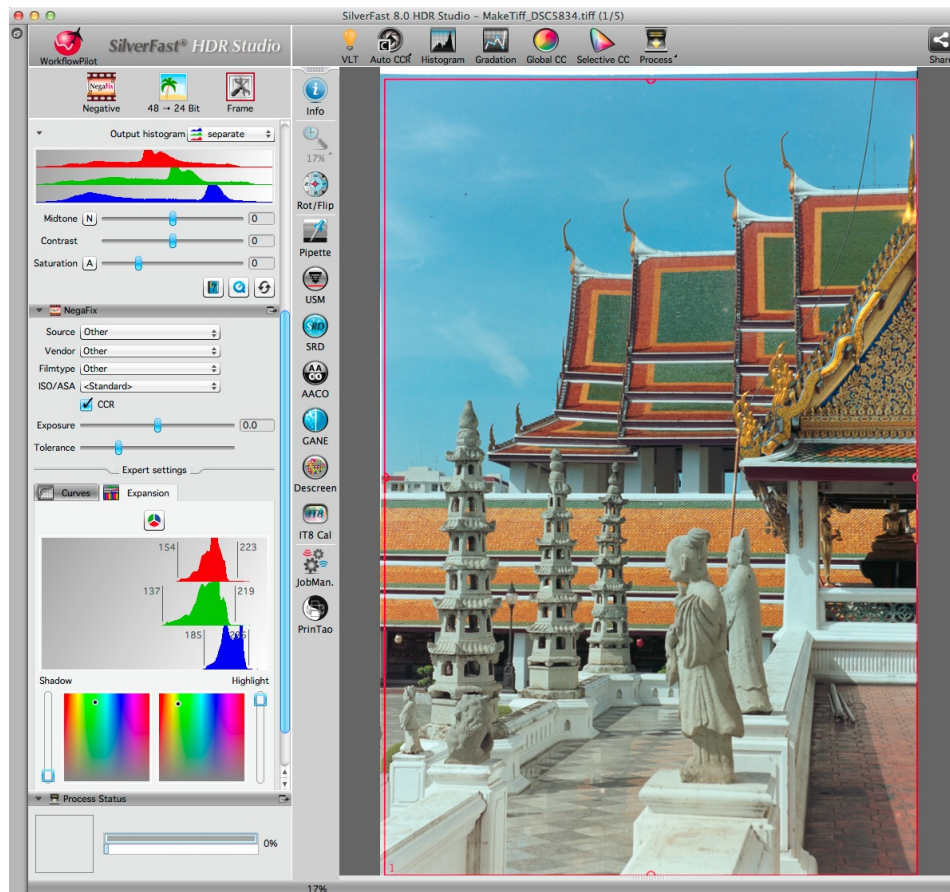
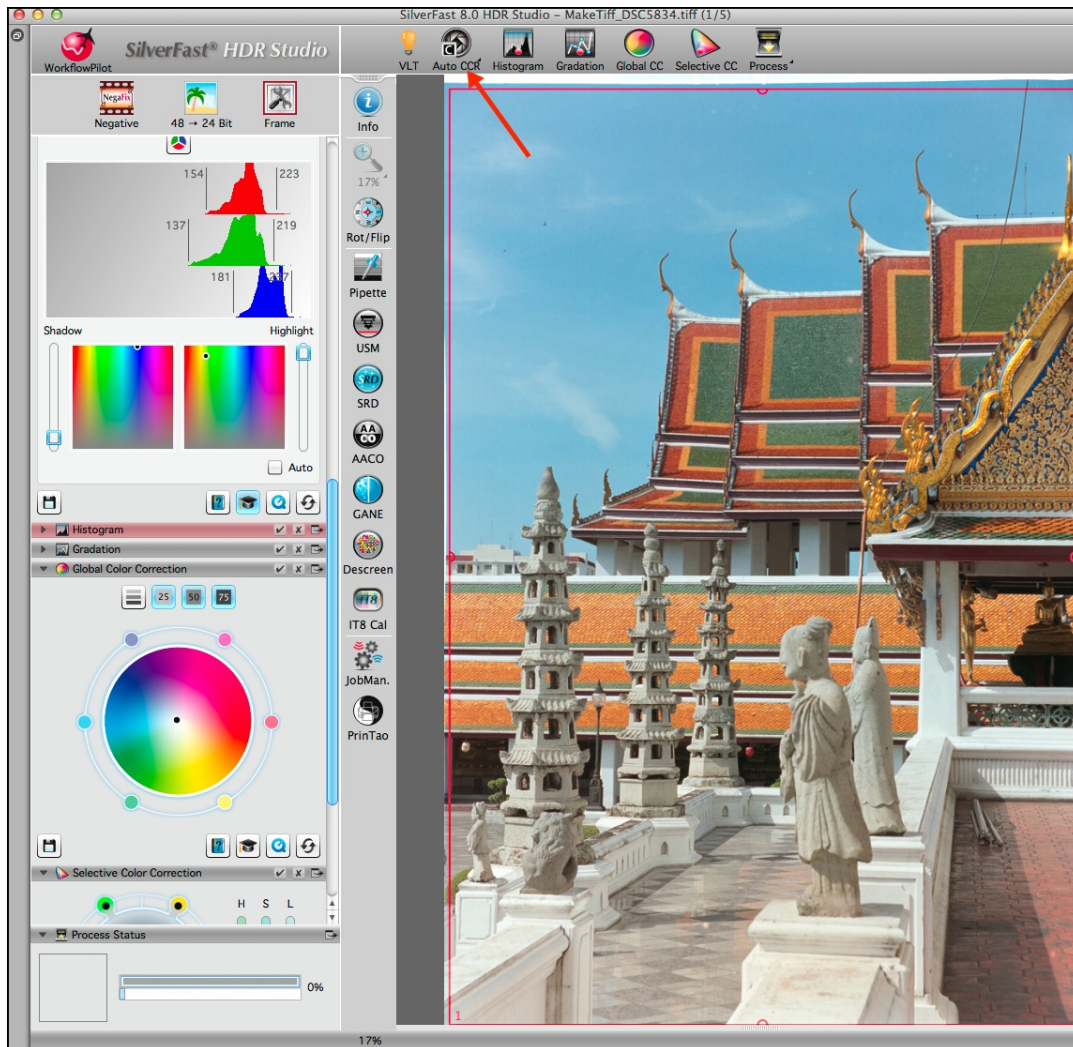

Figure 10. “MakeTIFF” file opened in Negative Mode in SilverFast HDR8 - Unadjusted
Figure 10A. Largely Corrected Colour Balance with one click of "Auto CCR"
The TIFF file created with “MakeTIFF” is then opened in SilverFast HDR8 (Figure 10); make sure it is set to Negative mode when it finishes opening from the VLT.
This triggers SilverFast's NegaFix tool (Figure 10, left side, bottom), which produces good inversions and demasking of negatives to positives. There is a default setting in the NegaFix profiles called <other>; it uses none of the custom film/scanner profiles in NegaFix, (perhaps not relevant to camera capture anyhow); this default set does a decent first pass at inverting and demasking the MakeTiff file all by itself. From there, one may refine it in different ways. An amazingly effective, instantaneous approach is to simply click on the "Auto CCR" button in SilverFast HDR8 and this often sets everything just about right (Figure 10A, compare with the opening conversion in Figure 10).
GENTLY tweaking either the individual colour curves or the end-points of the individual colour histograms in the Expansion tab of the NegaFix Expert dialog (Figure 10, left side, bottom) can neutralize a cast.
**(2) The Neutral Pipette:** Click the Neutral Pipette on any part of the photo that is meant to be grey. Very much like the White Balance tool in Lightroom, this tool rebalances all the colours accordingly. However, the Neutral Pipette in HDR8 has a unique ability to fine-tune white balance by allowing the user to set four neutralizing points in the same photo.
**(3) Global Color Correction (GCC) Tool:** Click or drag the adjustors in the colour wheel (Figure 10A, lower left) to eliminate a cast. For tweaking the NegaFix curves, NegaFix Histograms or the GCC controls, the general rule is to either back-off the colour group having the cast, or back into the colour group that is the opposite of that causing the cast (“same difference”). The GCC interface makes these adjustments quite intuitive (e.g. drag the black dot in the center of the wheel away from the cast) and they can be independently implemented for highlights, mid-tones and shadow tones.